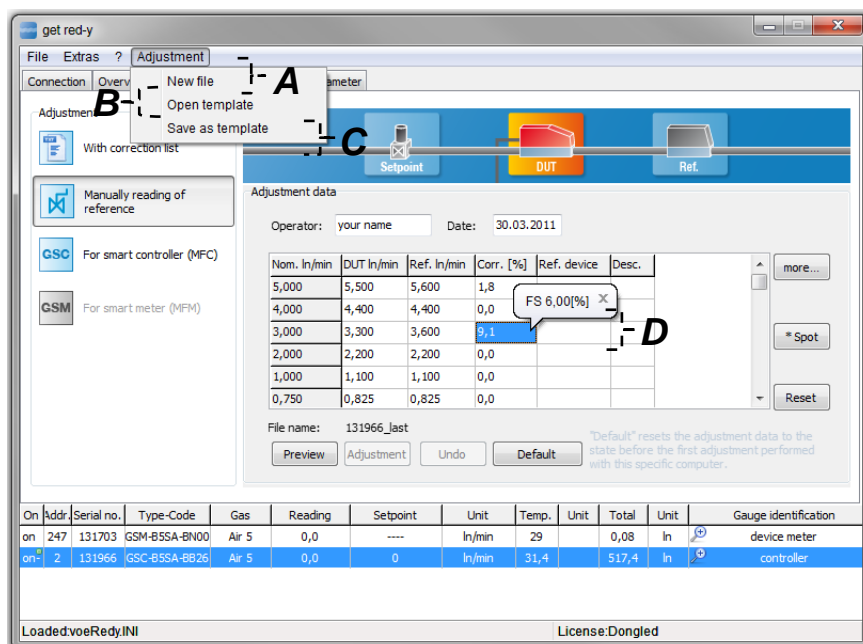

Figure 20: Displays the menu items in the Adjustment tab
- D. From End Value:** The values in the [Cor. [%] ] column in the Table in Figure 20 represent the measurement value errors in percentages. When you select a row the end value errors are also given in percentages.